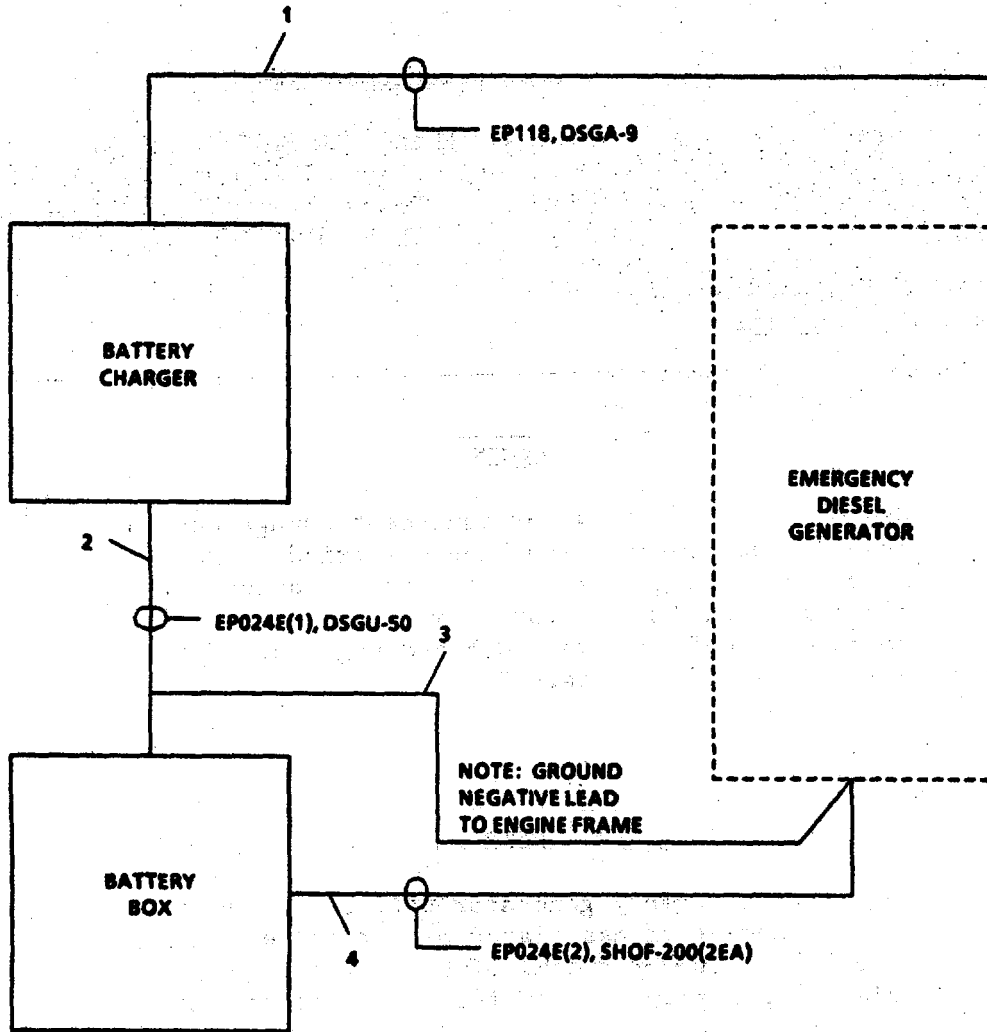

FIGURE 3-165. *Emergency Generator Battery Assembly.*
**3-182. Repair Emergency Generator Battery Assembly. (Figure 3-165)**